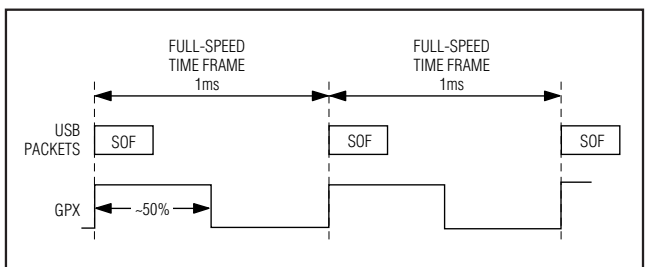

Figure 14. GPX Output in SOF Mode
- **SOFF:** A square wave with a positive edge that indicates the USB start-of-frame (Figure 14).